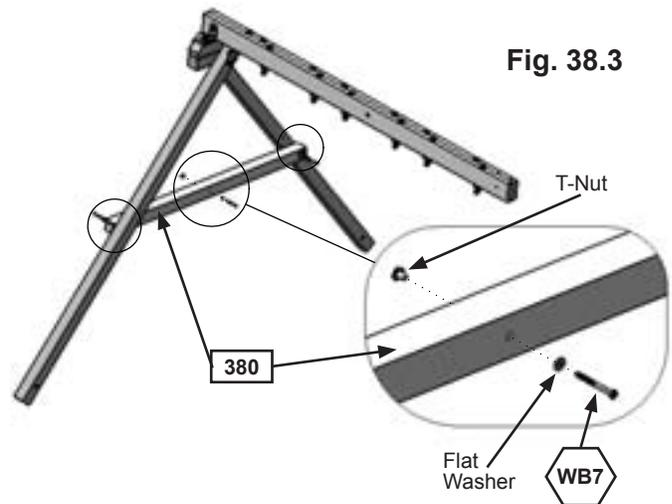

Fig. 38.3
C: Place (380) Cross Support between (372) SW Posts at the previously determined spot and fasten with 1 (LS9) 5/16 x 4-3/4" Lag Screw (with flat washer) per side. (fig. 38.3 and 38.4) **Notice one side is fastened on the outside and one on the inside. It is important that each side is positioned exactly the same as the diagram. (fig. 38.3) Tighten the lag screw when you are sure the Cross Support is level.**
D: Attach 1 (WB7) 5/16 x 3" Wafer Bolt (with flat washer and t-nut) to (380) Cross Support through middle hole. (fig. 38.3) **IMPORTANT! MAKE SURE THE BOLT IS ATTACHED TO MINIMIZE CHECKING OF WOOD.**